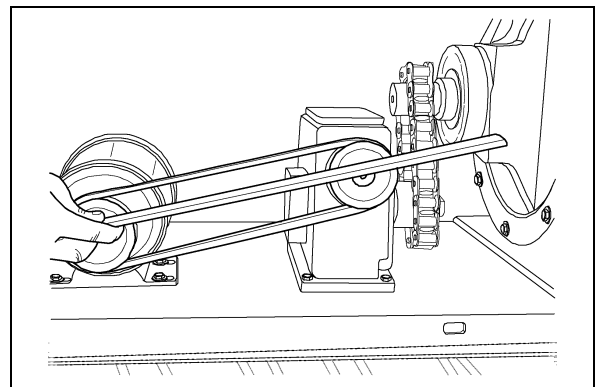

Figure 4M
8. Using four (4)  $\frac{5}{16}$ " x 1" carriage bolts, washers, and nuts, mount the motor to the airlock deck. Place the  $3\text{-}\frac{1}{4}$ " OD A-Groove Pulley on to the motor shaft and align to pulley on reducer. (See Figure 4M).